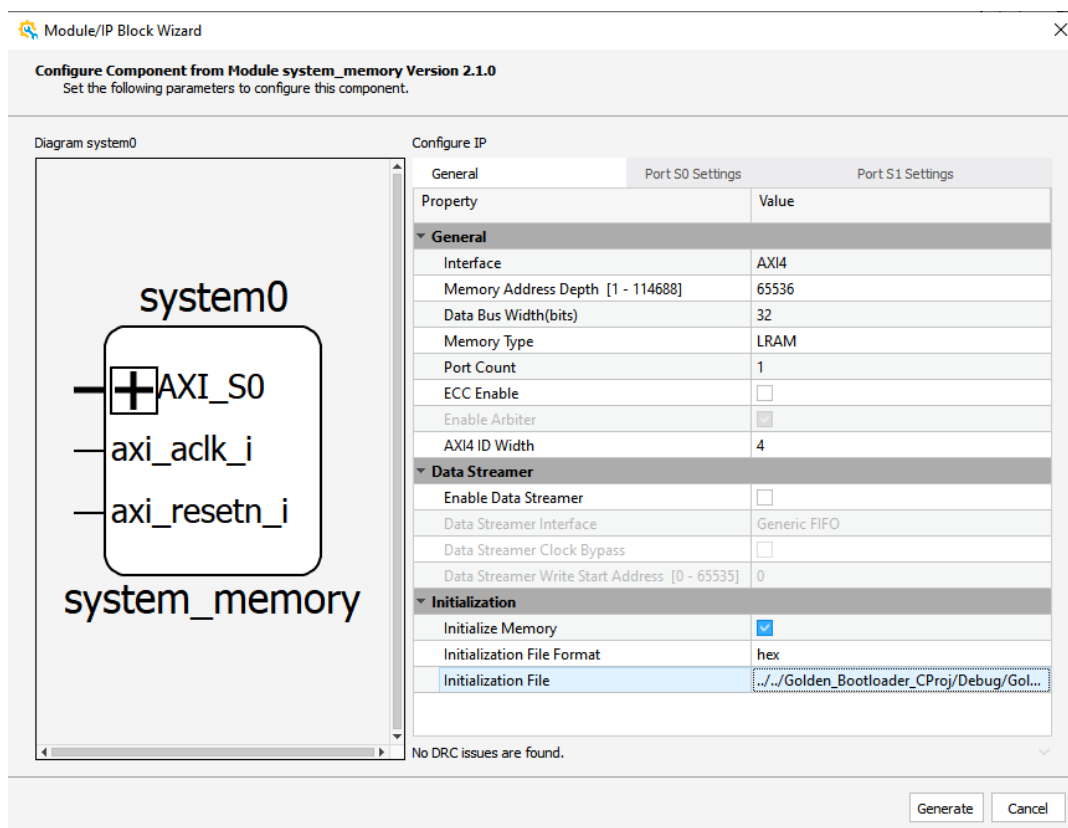

Figure A.32. System Initialization File
4. A pop-up window appears on the screen as shown in Figure A.32.